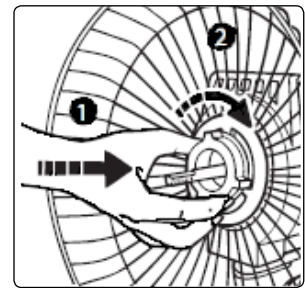

fig.2
- 4.1.3. Place the rear grill mounting nut over spindle and and tighten clockwise. fig.2.